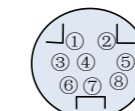

Figure 3 User program downloading port
- 1) (JP0 connected): PLC side is RS422 and PC side is USB. PC is connected to the PLC COM0 port via the dedicated USB downloading cable (see Figure 3). (The H2U-XP does not require JP0 connection.)
- 2) (JP0 connected): PLC side is RS422 and the PC side is RS232. PC is connected to the PLC COM0 port via the dedicated serial port download cable (see Figure 3). (The H2U-XP does not require JP0 connection.)